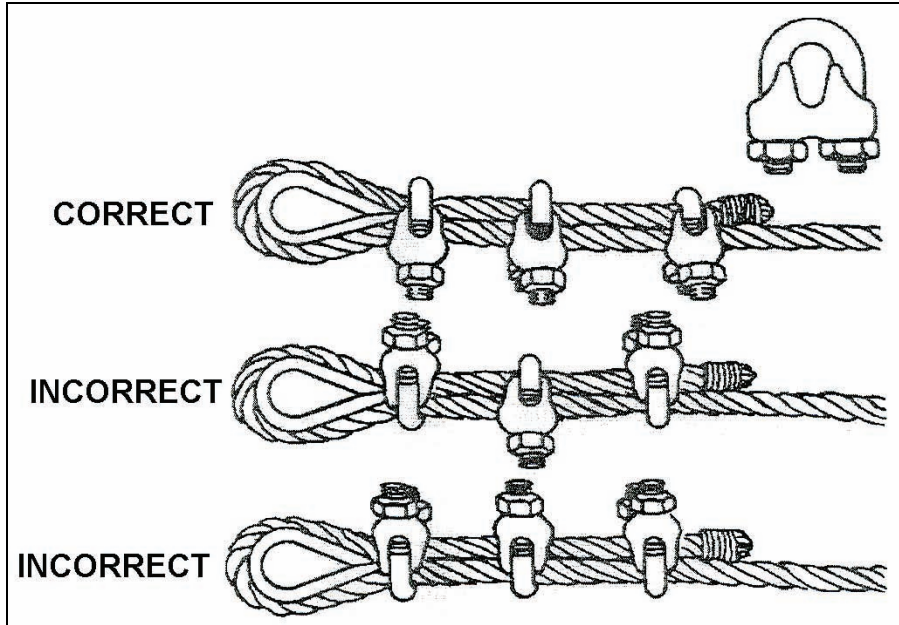

Figure 3-117. Applying and Spacing Clips
- c. Instruct personnel to apply the clips, spacing them about six rope diameters apart (see Figure 3-117).